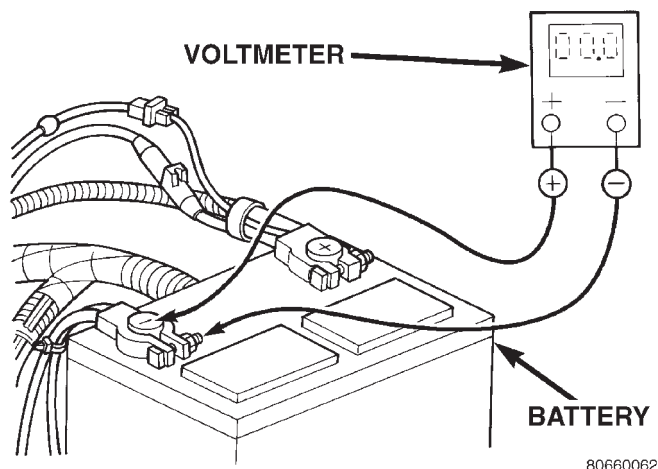

Fig. 2 Test Battery Negative Connection Resistance - Typical
(1) Connect the positive lead of the voltmeter to the battery negative terminal post. Connect the negative lead of the voltmeter to the battery negative cable clamp (Fig. 2). Rotate and hold the ignition switch in the Start position. Observe the voltmeter. If voltage is detected, correct the poor contact between the cable clamp and the terminal post.